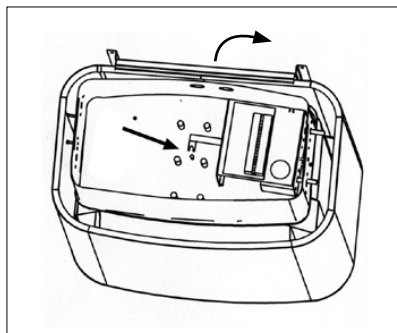

Bild 4.
- Unscrew the attaching screw connecting the middle resistor and the terminal block which is located at the bottom of the junction box. This will enable you to turn the leg of the terminal block to the side from underneath the screw (Figure 4).